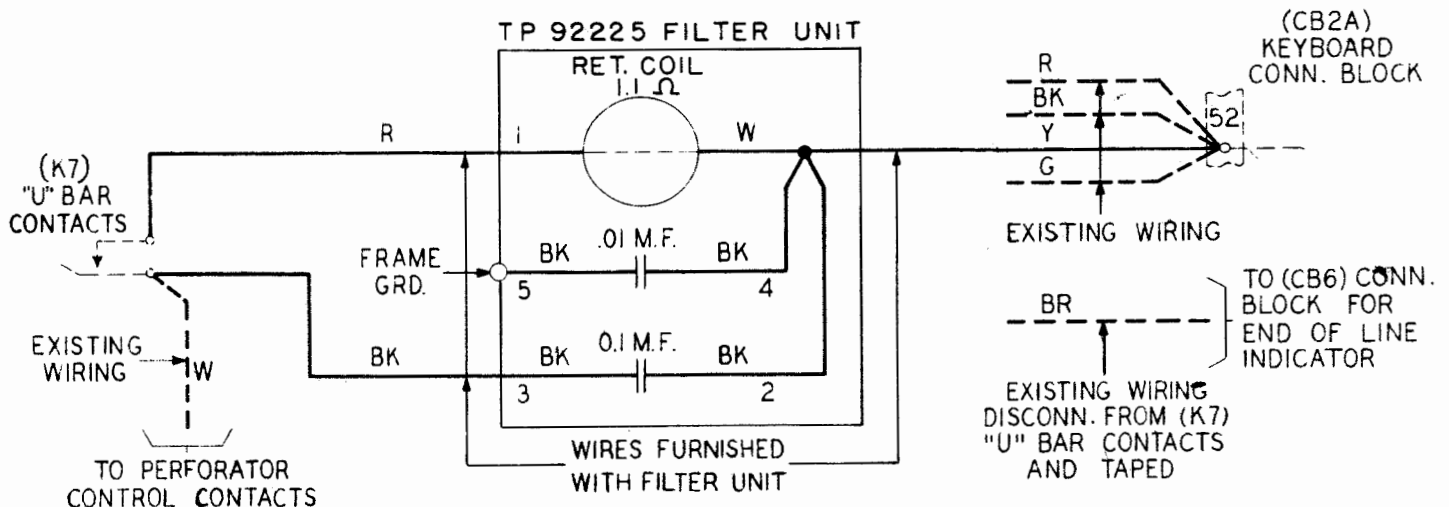

Figure 1
2.02 Refer to Figure 1 and connect the filter unit as follows: